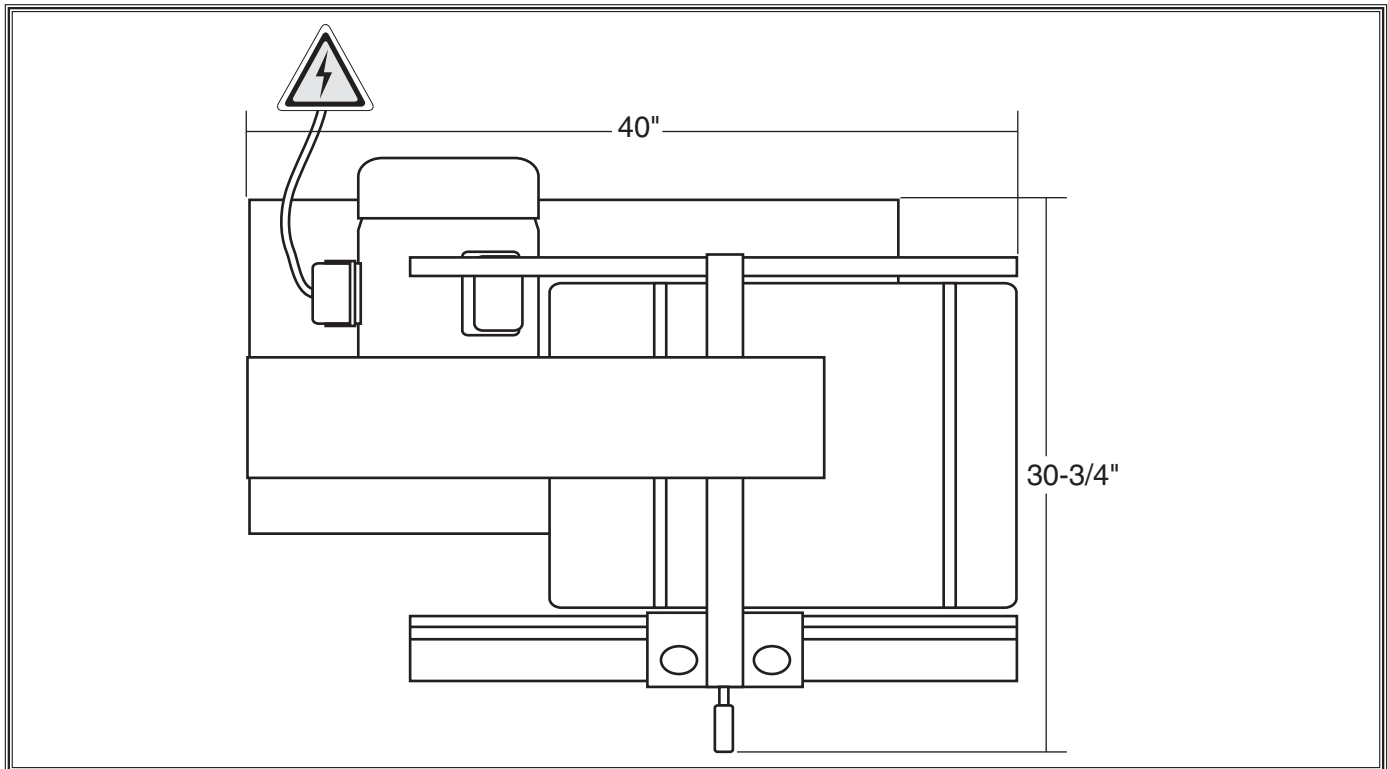

Figure 4. Model M1113 working clearances.
- **Working Clearances:** Consider existing and anticipated needs, size of material to be processed through the machine, and space for auxiliary stands, work tables or other machinery when establishing a location for your bandsaw. Refer to **Figure 4**.